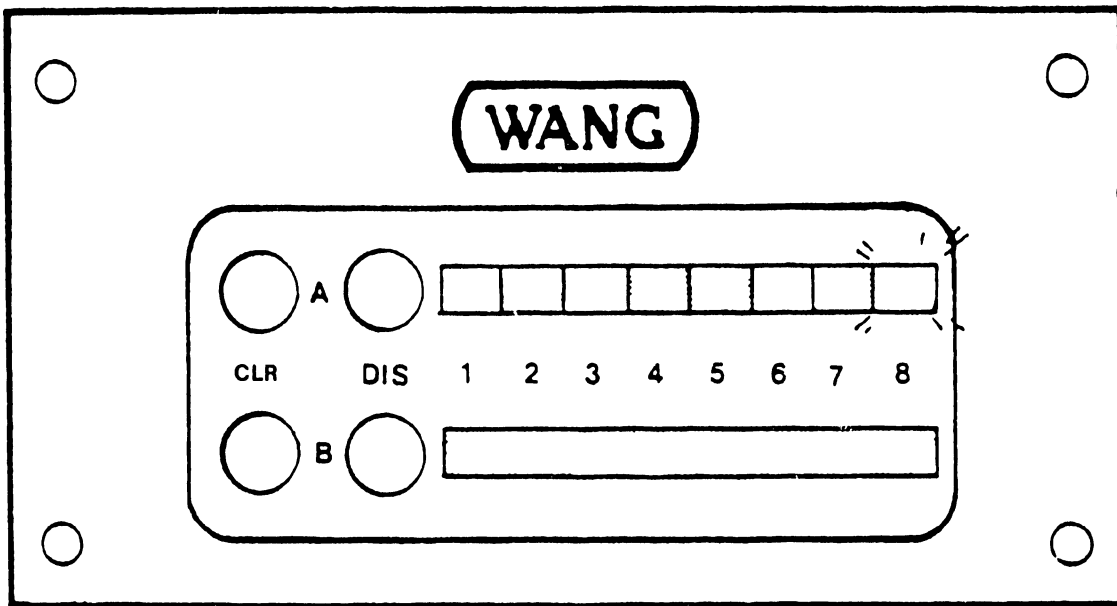

FIGURE 5-3 TC-B1 FRONT PANEL
The following procedure is to be used as an example in locating TC-B1 faults. The LED indications in Figure 5-3 are to be used in conjunction with the following sample procedure, this procedure should help in understanding how Charts 1, 2, and 3 are used.
- a. Refer to Chart 1 to find the Condition of the TC-B1. Figure 5-3 shows LED 1 ON and 8 BLINKING, this condition indicates a Memory Chip Error (as indicated in Chart 1).
- b. Locate the bank which has the defective memory chip. Figure 5-3 shows LED 2 OFF and LED 3 ON, therefore Bank 1 has the defective memory chip (as indicated in Chart 2).
- c. Locate the defective chip. Figure 5-3 shows LED 4, 5, and 7 OFF and LED 6 ON, therefore Chip 2 is the defective chip (as indicated in Chart 3).